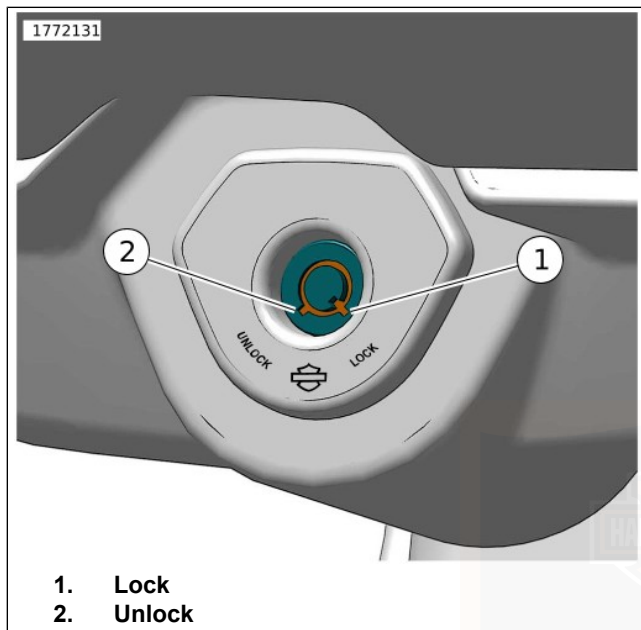

Figure 24. Fork Lock
See Figure 24. The fork lock is on the dash panel. Using the fork lock immediately after parking your motorcycle will discourage unauthorized use or theft. The fork lock can be locked and unlocked with the ignition key.
2. See Figure 24. Insert key and turn one-quarter turn counterclockwise to lock. Remove key.
1. See Figure 24. Insert key and turn one-quarter turn clockwise to unlock. Remove key.